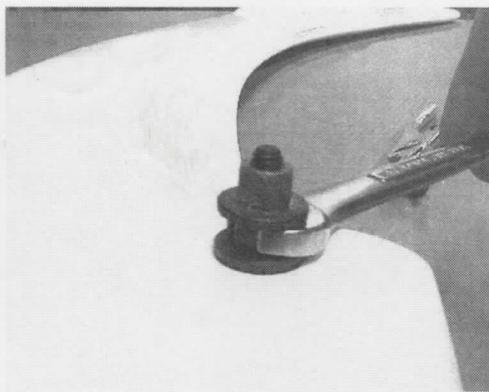

FIG. 2
2. REMOVE FOUR (4) MOUNTING STUDS FROM WING FEET, USING CAUTION NOT TO DAMAGE THREADS. **TIP... DOUBLE-NUTTING STUDS ALLOWS FOR EASY REMOVAL (SEE FIG. 2).**